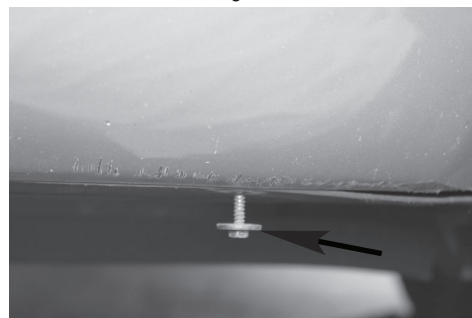

Figure 5
13. At front of vehicle remove 5 bolts on brush guard shown in **Figure 5**. Route around support beam to front of vehicle above the brush guard.